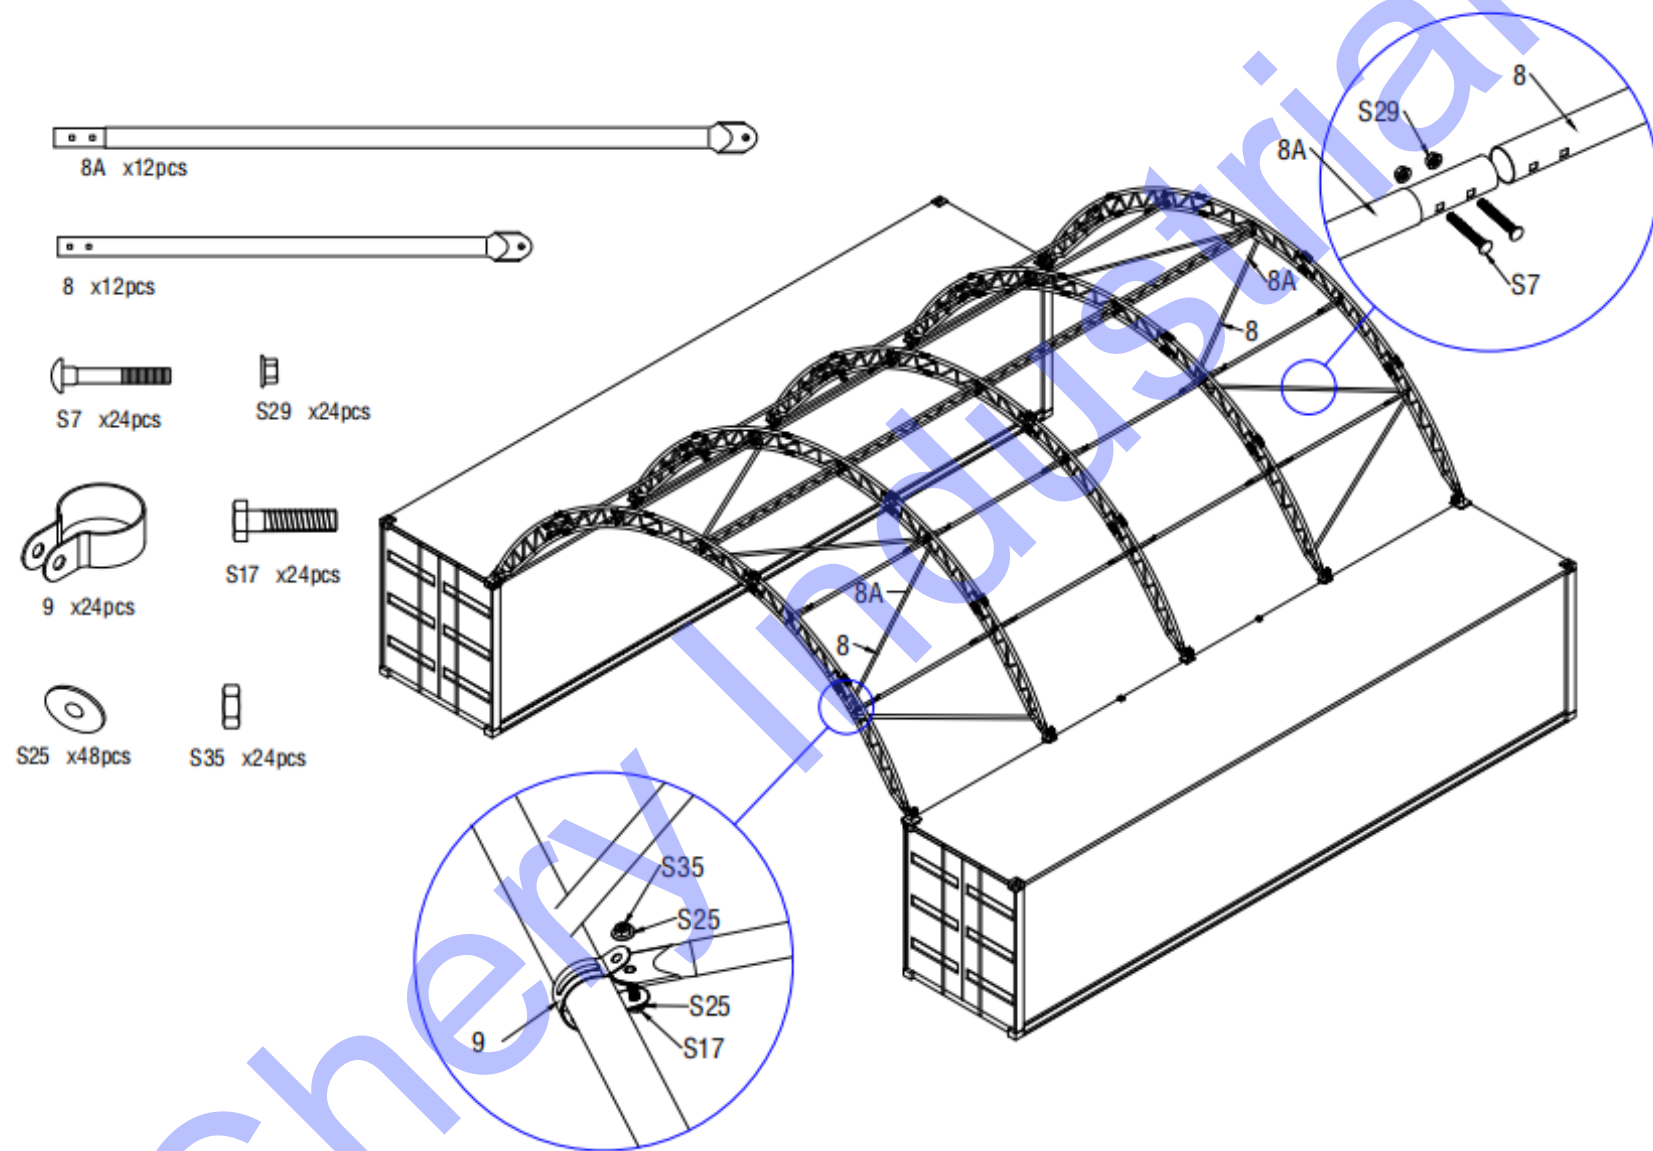

Figure 8
2.6. Connect the Diagonal Support tubes (Part no.8 and no.8A) by using bolt M8x60mm (Part no.S7), then install the diagonal support tubes to the arches by using clips (Part no9) as below Figure 8 shows. There are total two groups x diagonal support tubes as the figure shows.